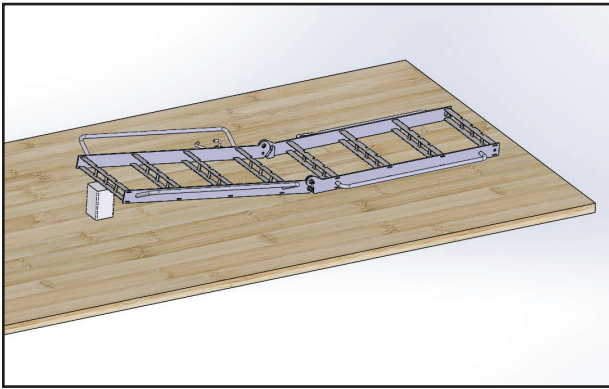

Figure 2
4. Prop the lower ladder up using a 6.25" tall block so it makes an 8 degree angle with the flat surface (Figure 2).